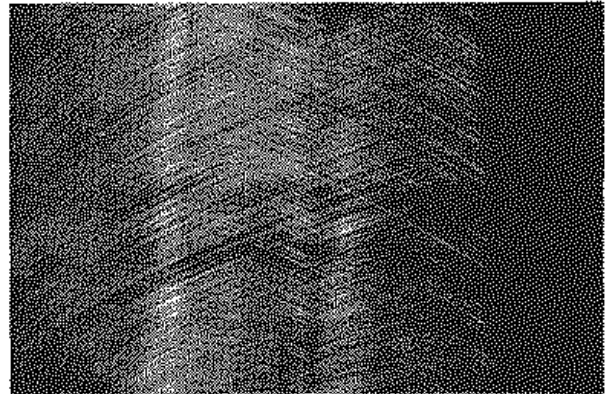

Fig. 4-8 - Honing Cross-Hatch Pattern
imately 30 complete cycles per minute to produce the cross-hatched pattern shown in Fig. 4-8.
10. If the liner is scuffed, remove material build-up, or scuffing. Do not attempt to remove any isolated dirt scratches as they do not significantly affect operation. Honing out these scratches needlessly reduces liner life. After the surface has been "cleaned up," the hone should be removed and the stones wire-brushed to remove any loading of the stones. The liner should then be honed with the clean stones, using heavy pressure to obtain a good cross-hatched pattern, Fig. 4-8. Do not remove any more metal than is necessary to obtain desired finish.